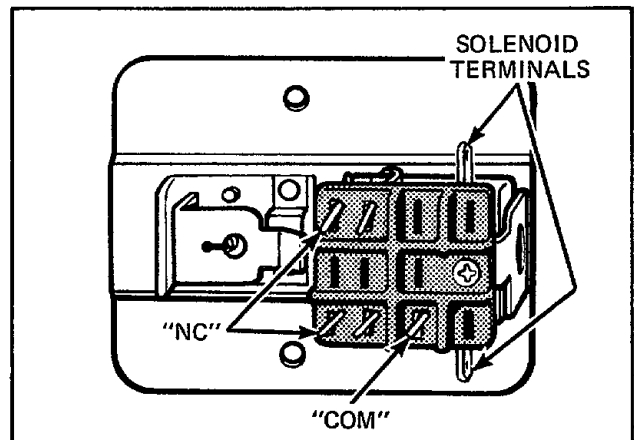
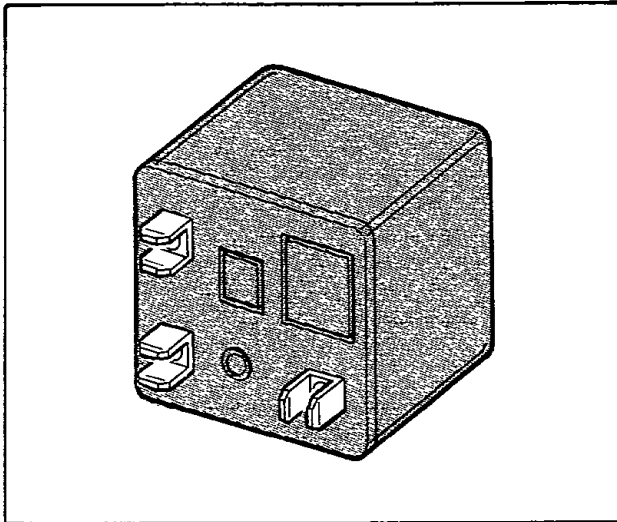

Figure 58
Figure 59
- 56. MANUAL RESET SWITCH** – Through Serial Number 592J8 (Refer to Figure 58)
- b. Apply “live” test lamp probes to common (COM) terminal and a normally closed (NC) terminal. “Live” test lamp should light.
- 57. RELAY SWITCH** (Refer to Figure 59)